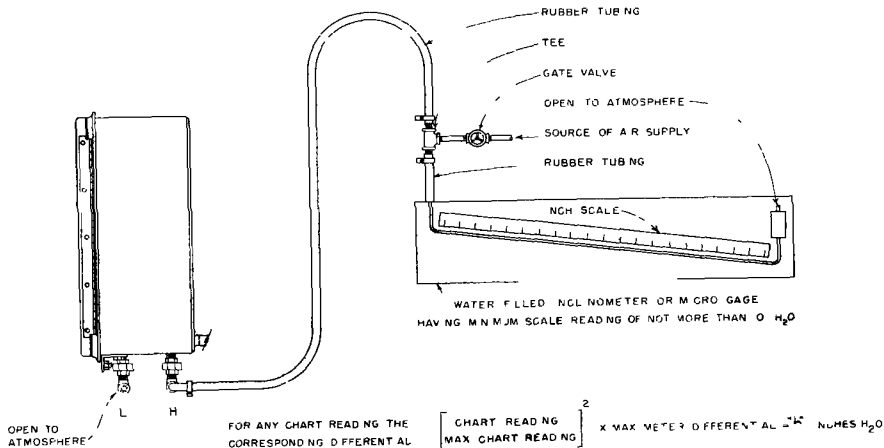

FIGURE 5 Typical Calibration Outfit
2. Connect Recorder or Indicator H connection to a calibration outfit similar to that shown in Figure 5.